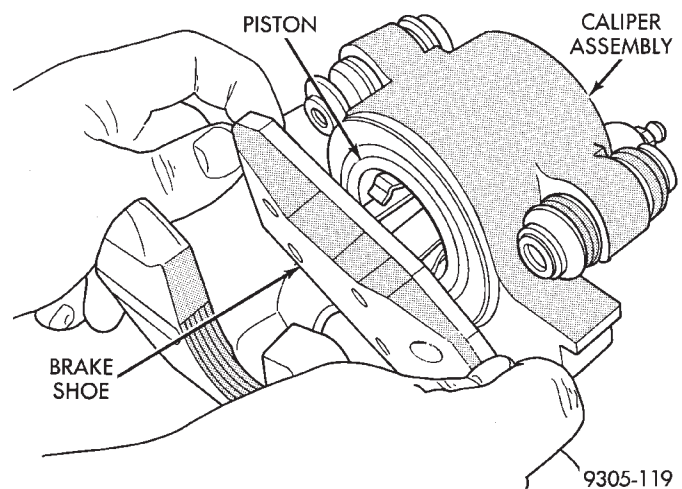

Fig. 6 Removing Inboard Brake Shoe
(8) Pull inboard brake shoe away from piston, until retaining clip is free from cavity in piston. (Fig. 6).